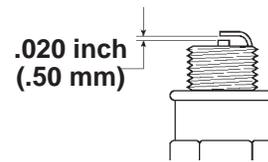

Figure 21
- Set the gap on the new plug to 0.020 in. (0.50 mm) (Fig. 21).